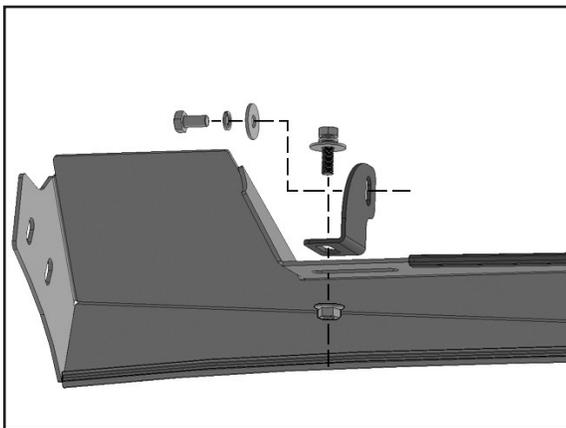

FIGURE 21
- a. Attach the driver/left and passenger/right LED "L" Brackets to the slots in the Wind Fairing first with the included (2) 8mm Combo Bolts and (2) 8mm Flange Nuts, **(Figure 21)**.